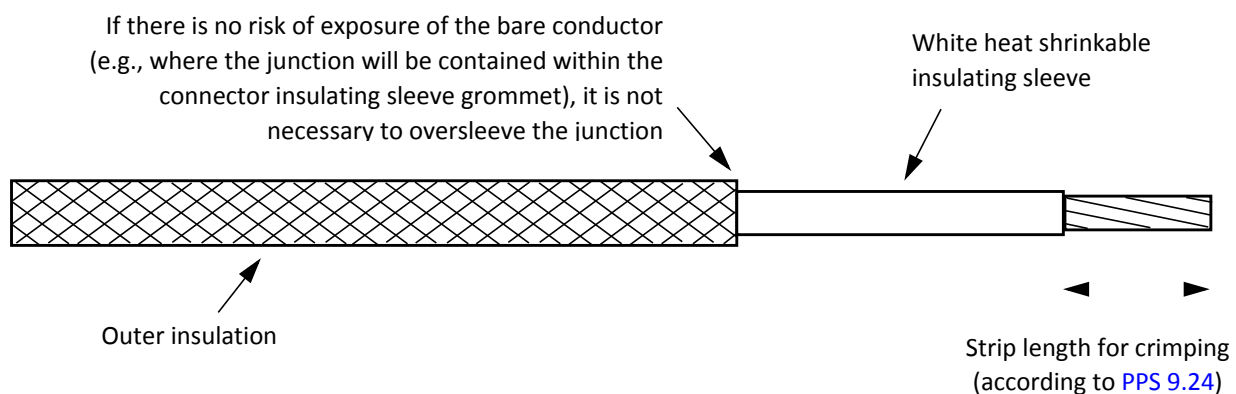

Figure 3. Alternate Preparation of High Temperature Wire
- If there is no risk of exposure of the bare conductor in the junction where the heat shrinkable sleeving butts against the unstripped wire insulation (e.g., the junction will be contained within the connector grommet), it is not necessary to oversleeve the junction (see Figure 3).